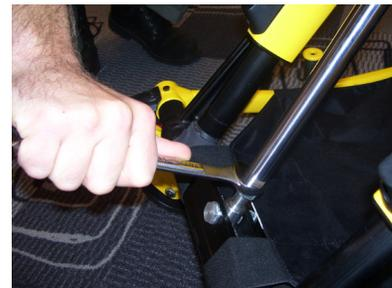

Figure 4d - Adjusting Shaft
- c. To reach the desired cot height you will need to adjust the cylinder shaft. Loosen the nut at the end of the shaft (Figure 4d).